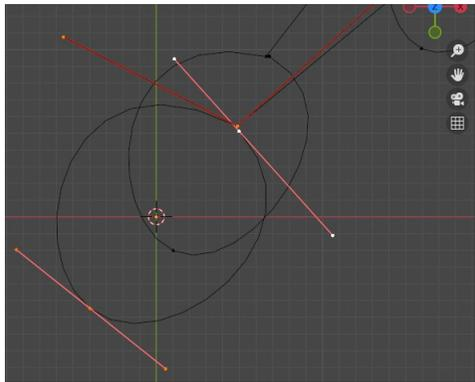

Figure 3-10 Sharp bend between sail and mast using Free Handle type
12. Change the control point where the sail meets the mast so the curve can bend sharply using **Control Points** ▶ **Set Handle Type** ▶ **Free** as shown in the detail of Figure 3-10.